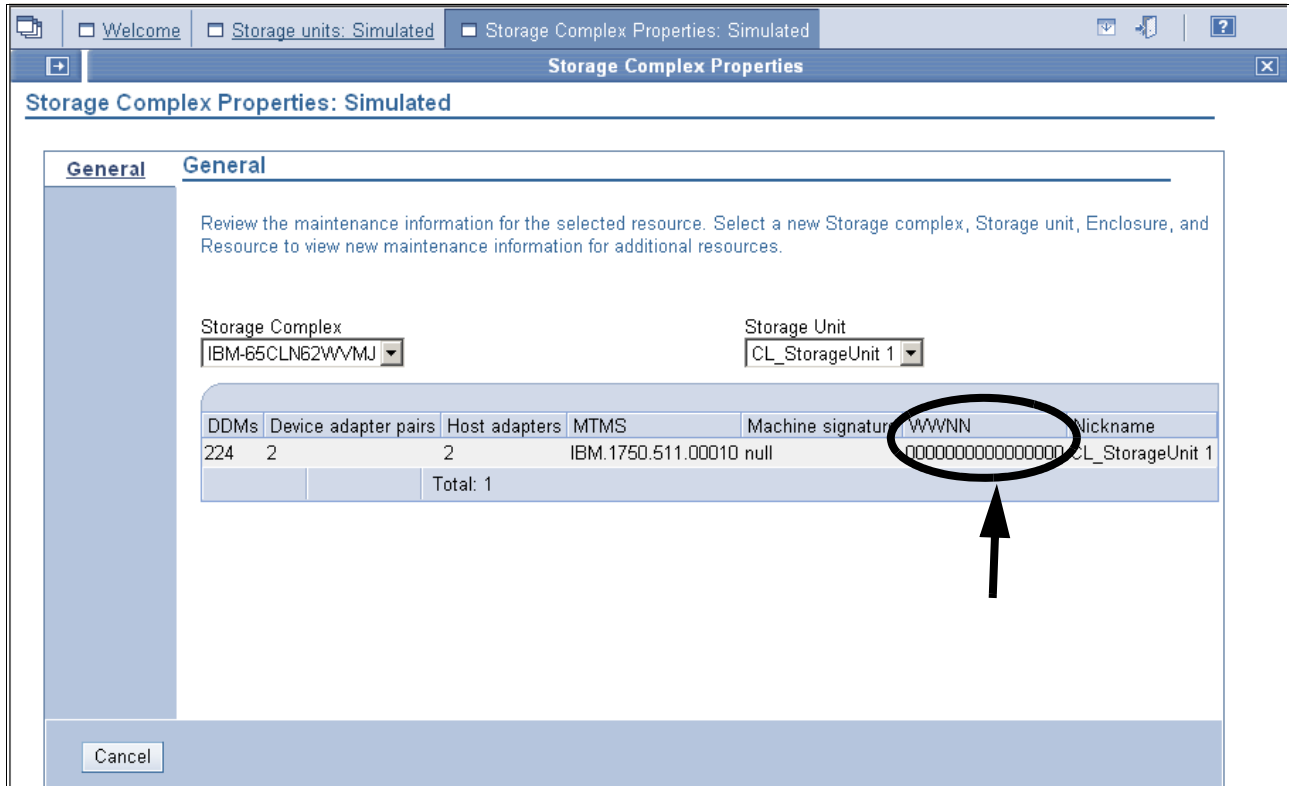

Figure 9-52 View of the WWNN in the General panel
5. Click **Go**. The panel will advance to the General panel shown in Figure 9-52.
The WWNN number is displayed as shown in Figure 9-52.